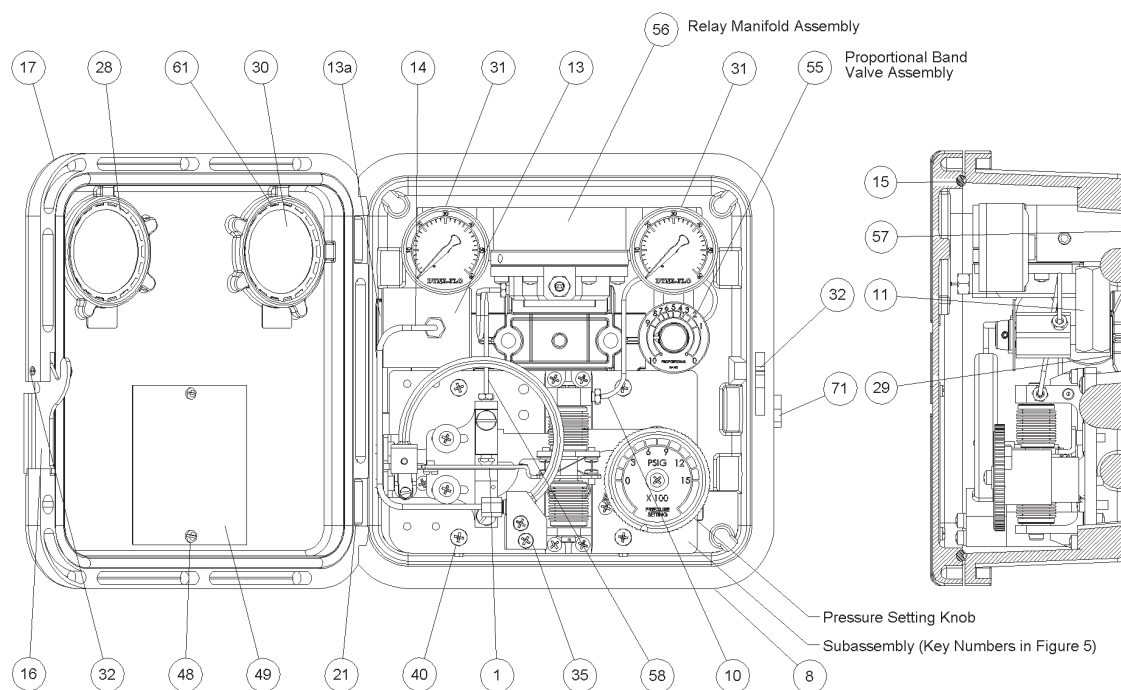

Figure 4 Dyna-Flo Model 4000 General Detail
- E** Disconnect the tubing (Figure 4, Key 14) from the CONTROL pressure block (Figure 4, Key 13) to the bourdon tube (Key 7), at the CONTROL pressure block end.
- F** Remove the 4 machine screws (Key 40, Figure 4), and lift the controller subassembly from the case.
- S** Replace the subassembly in the case and secure with the machine screws (Key 40, Figure 4).
- U** Unscrew the supply and output gauges (Key 31, Figure 4) and install new gauges with correct ranges.
Whenever corresponding with Dyna-Flo about a 4000 series pressure controller, refer to the nameplate (Key 48, Figure 4) for the serial number of the unit. Please order by the complete part number (as given in the following parts list) of each part required.